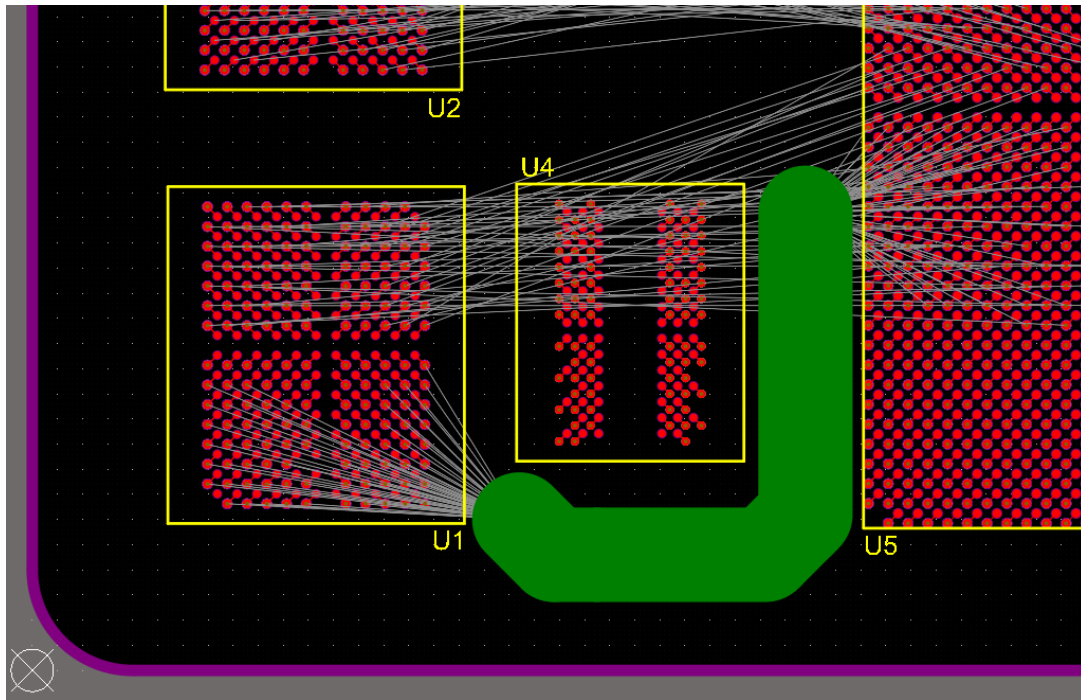

Figure 9. Route Guide
28. Next, draw the Route Guide as shown in Figure 9. A reference for the Route Guide is available on mechanical layer 99 Route Guide.